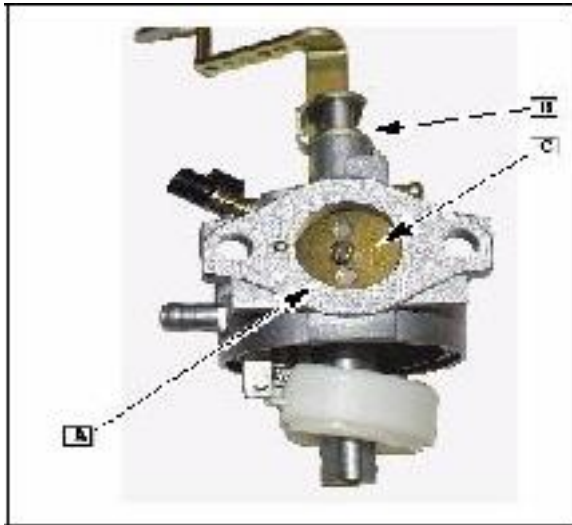

Fig. 37
Place the throttle plate (A) on the throttle shaft (B) with the stamped numbers ([C] Fig. 37) to the right. Install screw with washer.